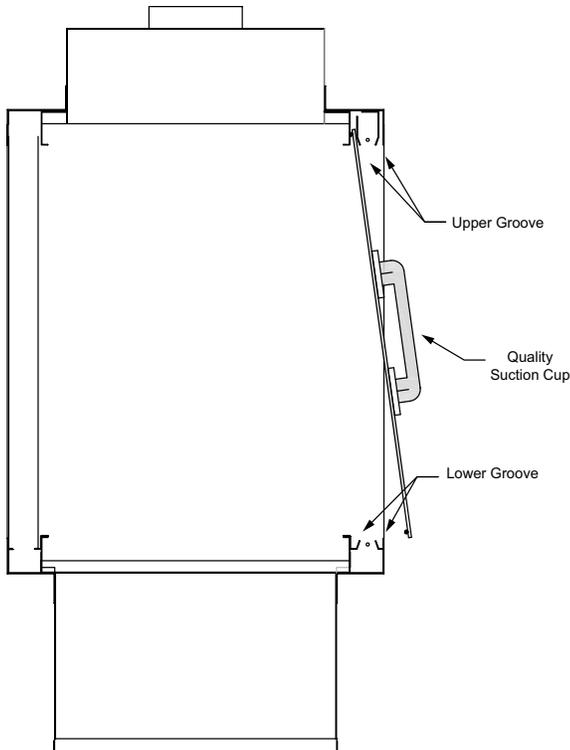

Figure 6A
Refer to Section 6 (Glass Frame Assembly Identification Figures 6A & 6B.1) when installing and removing the glass frame assembly.
3. Lift the glass into place. The top edge slips into the top groove (the glass will be behind the glass clip and against the gasketing); lift into the groove until the bottom is clear of the bottom trim. Make sure the glass is behind all the glass clips and slide the glass down into the inner bottom groove. Gently push the glass tightly into the gasketing. See Figure 6A